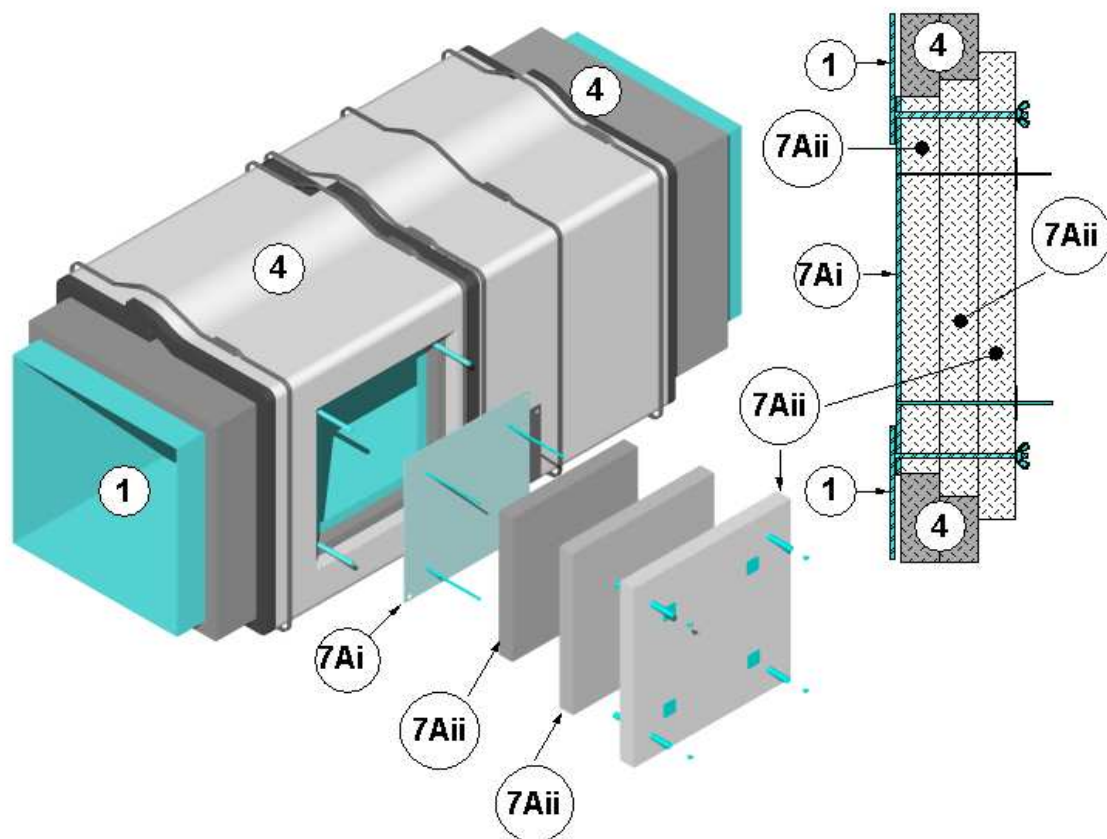

Figure 3 – Field Fabricated Access Door Option A
8. NONCOMBUSTBLE² SUPPORTING CONSTRUCTION: Refer to Figures 3 and 4. Use one of the following wall or floor assemblies.